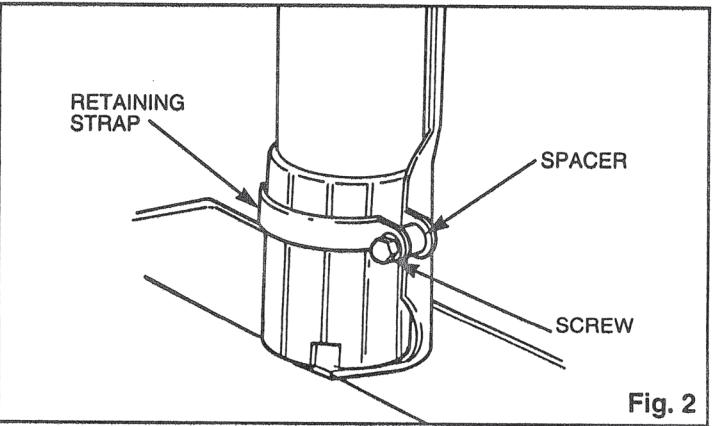

Fig. 2
6) Firmly seating the fuel pump into the pump bracket, install the fuel pump retaining strap and using the spacer and longer screw, as illustrated (see Fig. 2), securely tighten the screw to the pump bracket.